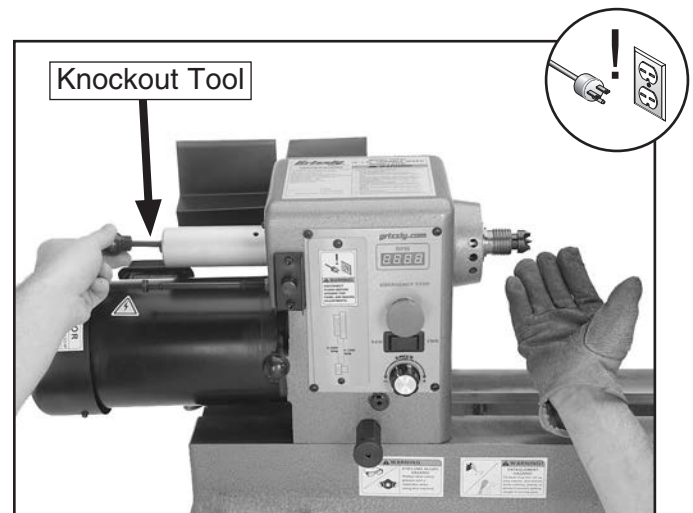

Figure 26. Removing the headstock center.
3. Insert the knockout tool through the outbound end of the spindle and firmly tap the center, catching it as it falls (see **Figure 26**).